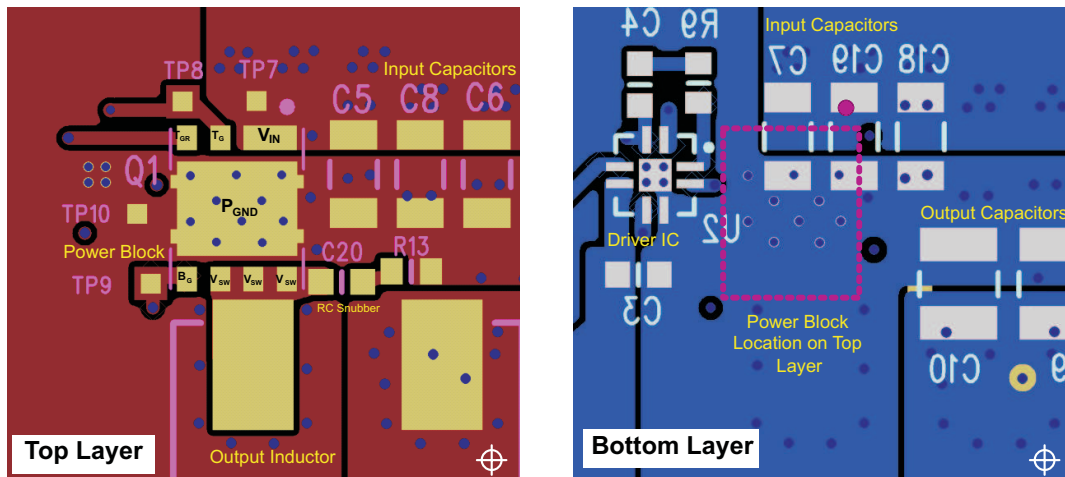

Figure 34. Recommended PCB Layout (Top Down View)
- The placement of the input capacitors relative to the power block's VIN and PGND pins should have the highest priority during the component placement routine. It is critical to minimize these node lengths. As such, ceramic input capacitors need to be placed as close as possible to the VIN and PGND pins (see Figure 34). The example in Figure 34 uses 6  $\times$  10- $\mu$ F ceramic capacitors (TDK part C3216X5R1C106KT or equivalent). Notice there are ceramic capacitors on both sides of the board with an appropriate amount of vias interconnecting both layers. In terms of priority of placement next to the power block, C5, C7, C19, and C8 should follow in order.
- The switching node of the output inductor should be placed relatively close to the power block VSW pins. Minimizing the node length between these two components will reduce the PCB conduction losses and actually reduce the switching noise level. In the event the switch node waveform exhibits ringing that reaches undesirable levels, the use of a boost resistor or RC snubber can be an effective way to easily reduce the peak ring level. The recommended boost resistor value will range between 1  $\Omega$  to 4.7  $\Omega$  depending on the output characteristics of driver IC used in conjunction with the power block. The RC snubber values can range from 0.5  $\Omega$  to 2.2  $\Omega$  for the R and 330 pF to 2200 pF for the C. Please refer to Snubber Circuits: Theory, Design and Application (SLUP100) for more details on how to properly tune the RC snubber values. The RC snubber should be placed as close as possible to the VSW node and PGND see Figure 34.(1)
- Use the smallest drill size allowed in your design. The example in Figure 34 uses vias with a 10-mil drill hole and a 16-mil capture pad.